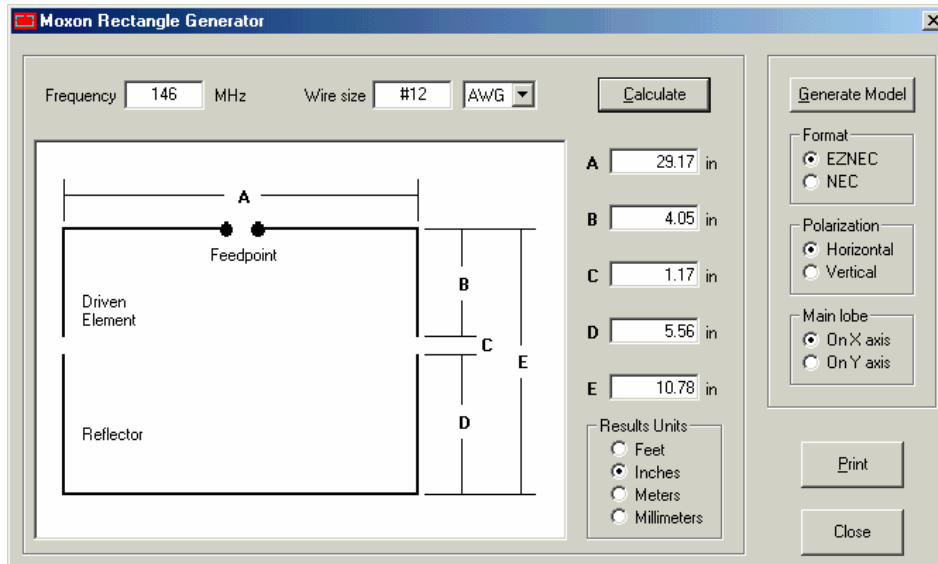

Figure 2. Screenshot of the Moxon Rectangle Generator (courtesy AC6LA).
Like many antenna designs, this one is evolutionary. The last great contribution was by L. B. Cebik W4RNL (SK) who studied it in depth and came up with a set of equations that provide those important optimized dimensions [Ref. 1]. And to make life really easy for us all, Dan Maguire AC6LA as written a dedicated application (*Moxon Rectangle Generator*, Fig. 2) that gives you the magic numbers [Ref.2]. You simply supply the frequency and the size of the wire or tubing. What could be easier? His program even supplies an output for simulators including EZNEC in case you want to explore further. I should also mention that the bent-element concept has been further adapted and morphed into many other designs including the popular Spiderbeam and Hexbeam. Good ideas do seem to propagate.